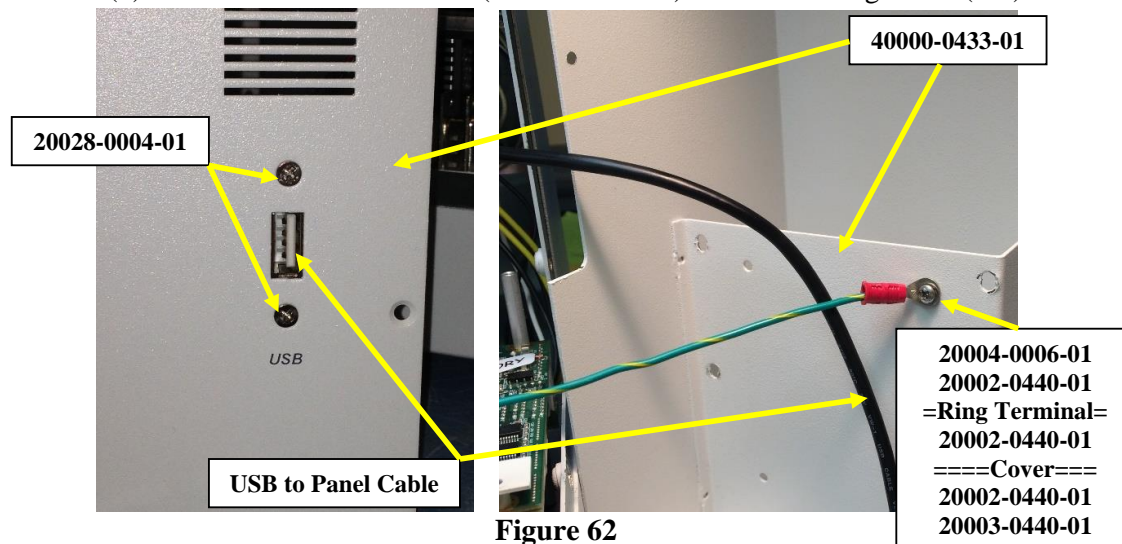

Figure 62
- 20.19. Mount the Mount the USB to Panel Cable to the Cover (40000-0433-01) using two (2) 4-40x1/4" Flat Head Screws (20028-0004-01) as shown in Figure 62 (left).
- 20.20. Attach the Ring Terminal from the green/yellow wire (from the Power Entry Module) to the Cover using a 4-40x3/8" Pan Head Screw (20004-0006-01), three (3) #4 Lockwashers (20002-0440-01), and a 4-40 Nut (20003-0440-01) as shown in Figure 62 (right).